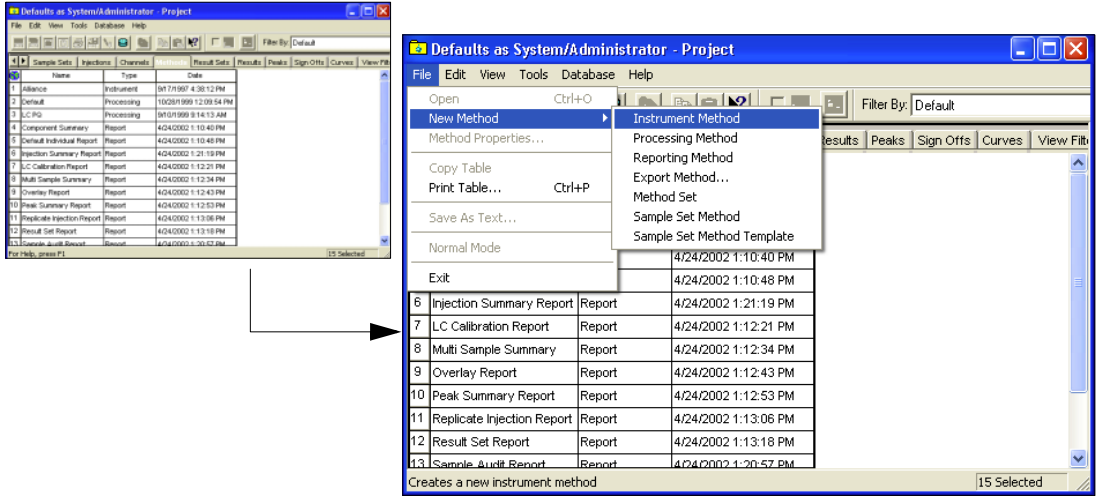

Figure 3-2 Active Instrument List
3. Select **File > New Method > Instrument Method** (Figure 3-2).